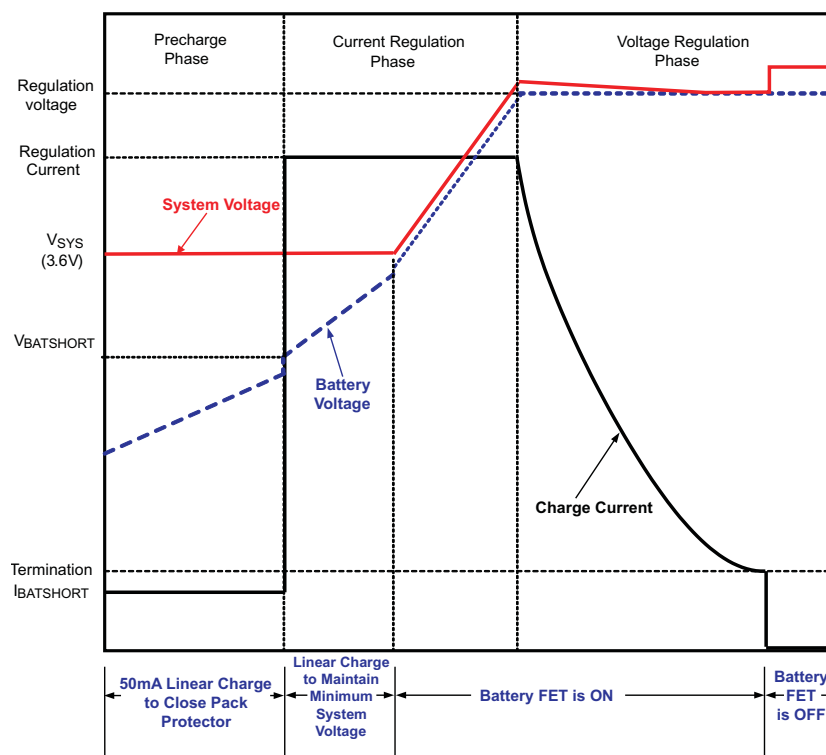

Figure 20. Typical Charging Profile of bq24165/6/7
Charging is done through the internal battery MOSFET. When the battery voltage is above 3.5V, the system output (SYS) is connected to the battery to maximize the charging efficiency. There are 6 loops that influence the charge current; constant current loop (CC), constant voltage loop (CV), input current loop, thermal regulation loop, minimum system voltage loop (MINSYS) and input voltage dynamic power management loop (V_{INDPM}). During the charging process, all six loops are enabled and the dominate one takes control. The bq24165/6/7 supports a precision Li-Ion or Li-Polymer charging system for single-cell applications. The minimum system output feature regulates the system voltage to a minimum of $V_{SYS(REG)}$, so that startup is enabled even for a missing or deeply discharged battery. Figure 20 shows a typical charge profile including the minimum system output voltage feature.